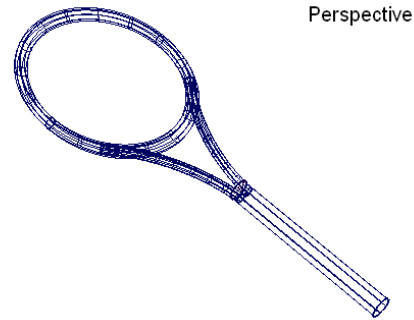

Figure 3-80 Handle created by extrusion
14. Select the line; the handle is created, as shown in Figure 3-80.